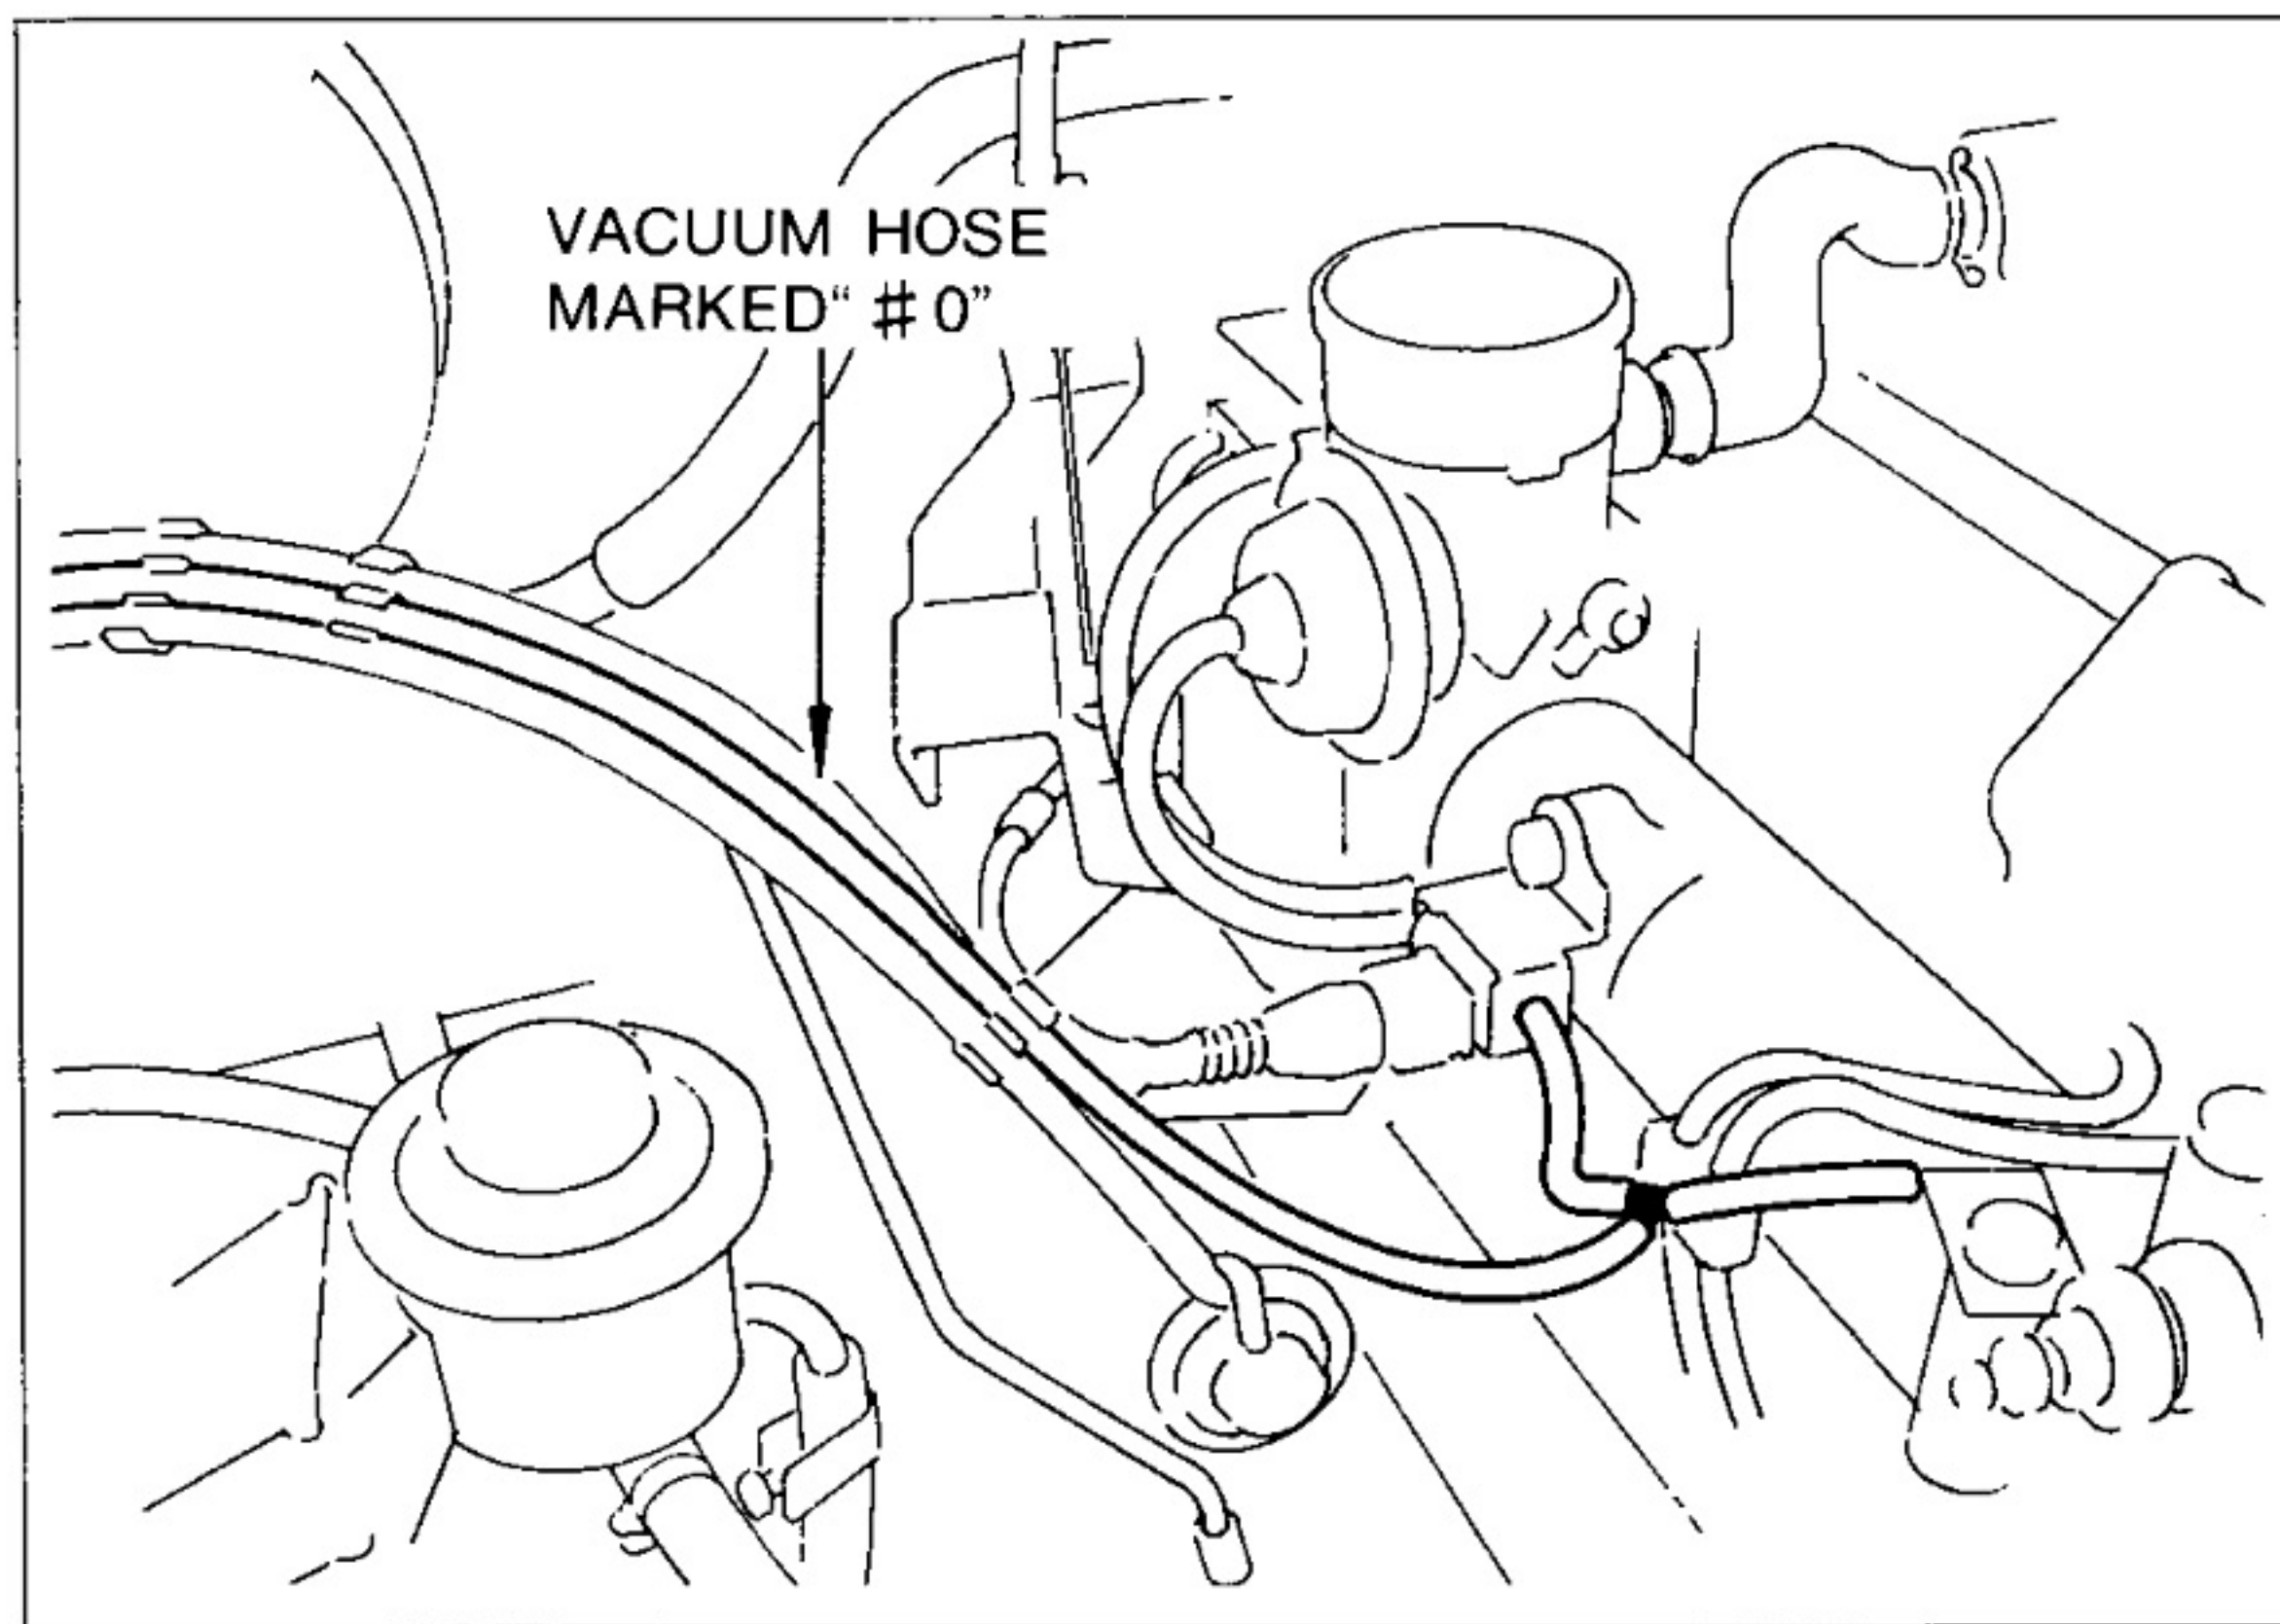

Fig.81
- (f) Fasten the vacuum hose using the four clamps as shown in Fig. 81.